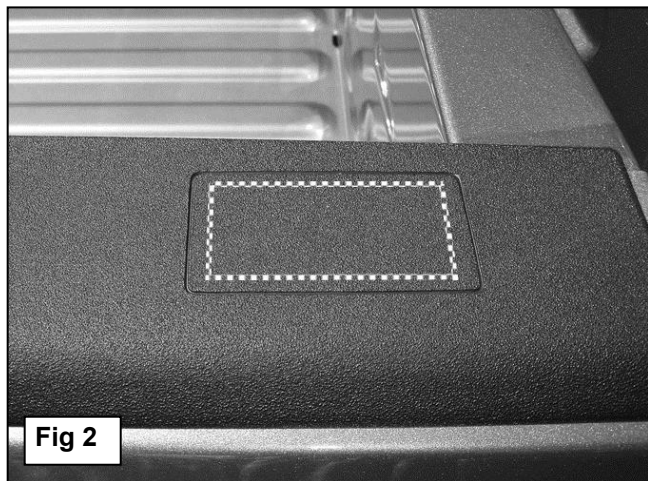

Fig 2
- a. Determine if the forward holes in the Brackets line up with the front stake pockets. **NOTE:** On some vehicles, the front stake pocket may be covered with a plastic bed cap. Remove or cut out the cover as required to gain access to the stake pocket, (**Figure 2**).